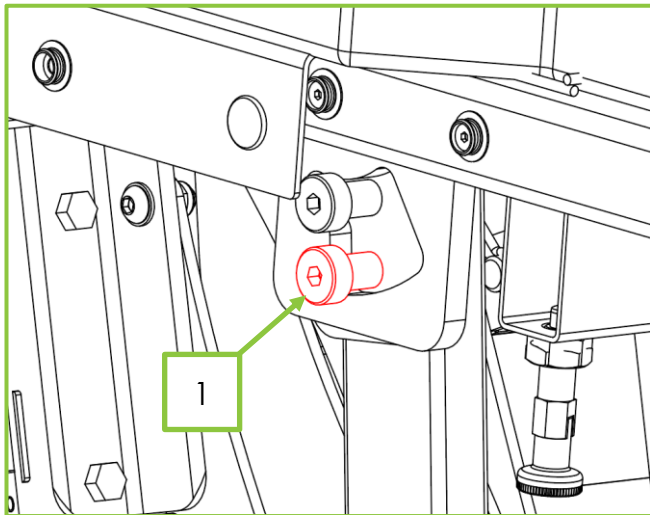

Figure 30
- The chair is delivered with this function locked. Remove the lock bolts on both LHS and RHS side on the chair using an Allen key. Ensure the correct bolts (Fig 30, Item 1) are removed.